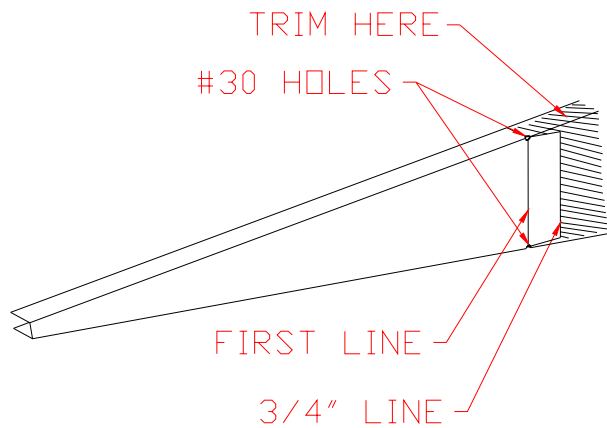

Figure 3.4.4
- 5) Cleco the second Elevator Center Doubler to the Elevator Stiffener Ribs. Mark the Center Doubler location onto the two center ribs. Figure 3.4.4. **NOTE:** Lower the Top Skin onto the center section to make sure the center line drawn on the Elevator Stiffener Rib is visible through the pre-punched holes in the skin.
Mark the rib where it will need to be trimmed to fit the center section. Figure 3.4.4.
- 11) Mark a second line $\frac{3}{4}$ " from the first. Drill two holes in the corners at the first line. Trim as in figure 3.4.4.